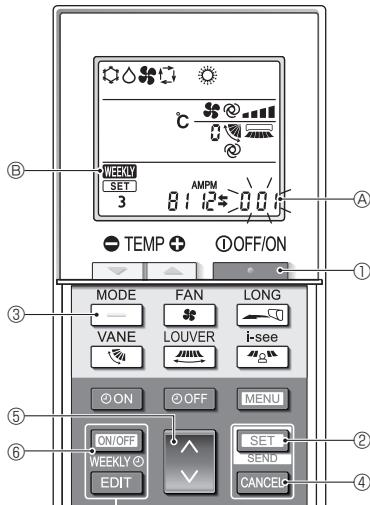

Fig. 5-12
#### 5.12.8. How to disable Auto mode operation (Fig. 5-12)
4. Completing the settings (Fig. 5-12)